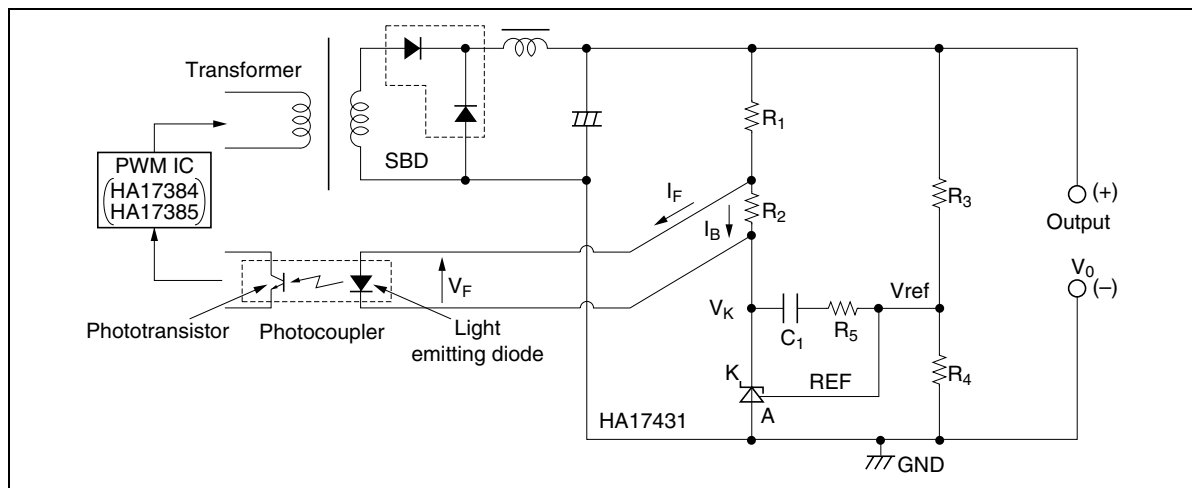

Figure 2 Typical Shunt Regulator/Error Amplifier
**DC characteristic determination:** In figure 2,  $R_1$  and  $R_2$  are protection resistor for the light emitting diode in the photocoupler, and  $R_2$  is a bypass resistor to feed  $I_K$  minimum, and these are determined as shown below. The photocoupler specification should be obtained separately from the manufacturer. Using the parameters in figure 2, the following formulas are obtained:
**AC characteristic determination:** This refers to the determination of the gain frequency characteristic of the shunt regulator as an error amplifier. Taking the configuration in figure 2, the error amplifier characteristic is as shown in figure 3.